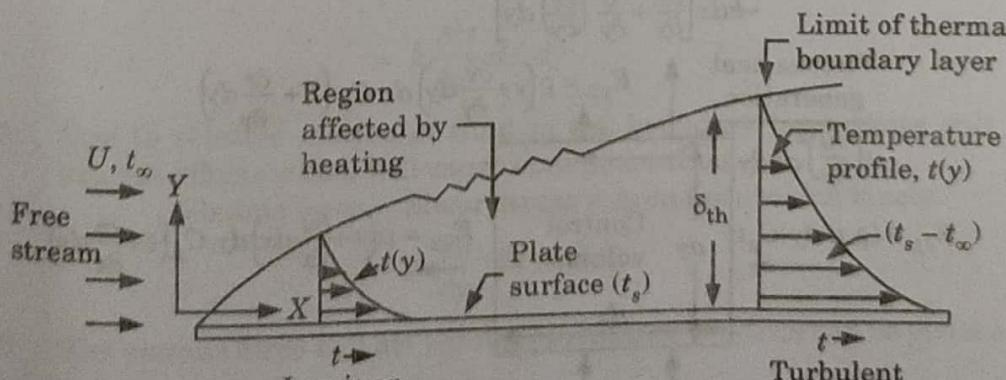

Fig. 3.3.1. Thermal boundary layer formed during flow of cool fluid over a warm plate.
1. Whenever a flow of fluid takes place past a heated or cold surface, a temperature field is set up in the field next to the surface. If the surface of the plate is hotter than fluid, the temperature distribution will be as shown in the Fig. 3.3.1. The zone or the layer wherein the temperature field exists is called the thermal boundary layer.